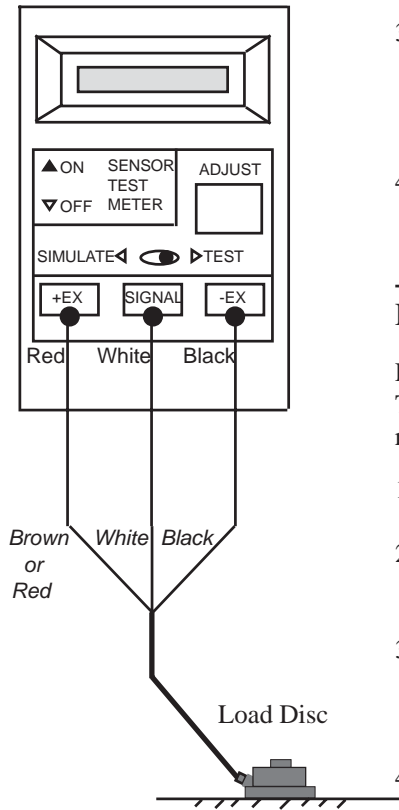

Figure C-1: Load Disc connection to the KM Test Meter.
1. Connect the brown or red, white and black wires of the Load Disc to the corresponding Test Meter terminals, as shown in Figure C-1. Place the Load Disc on a stable surface.